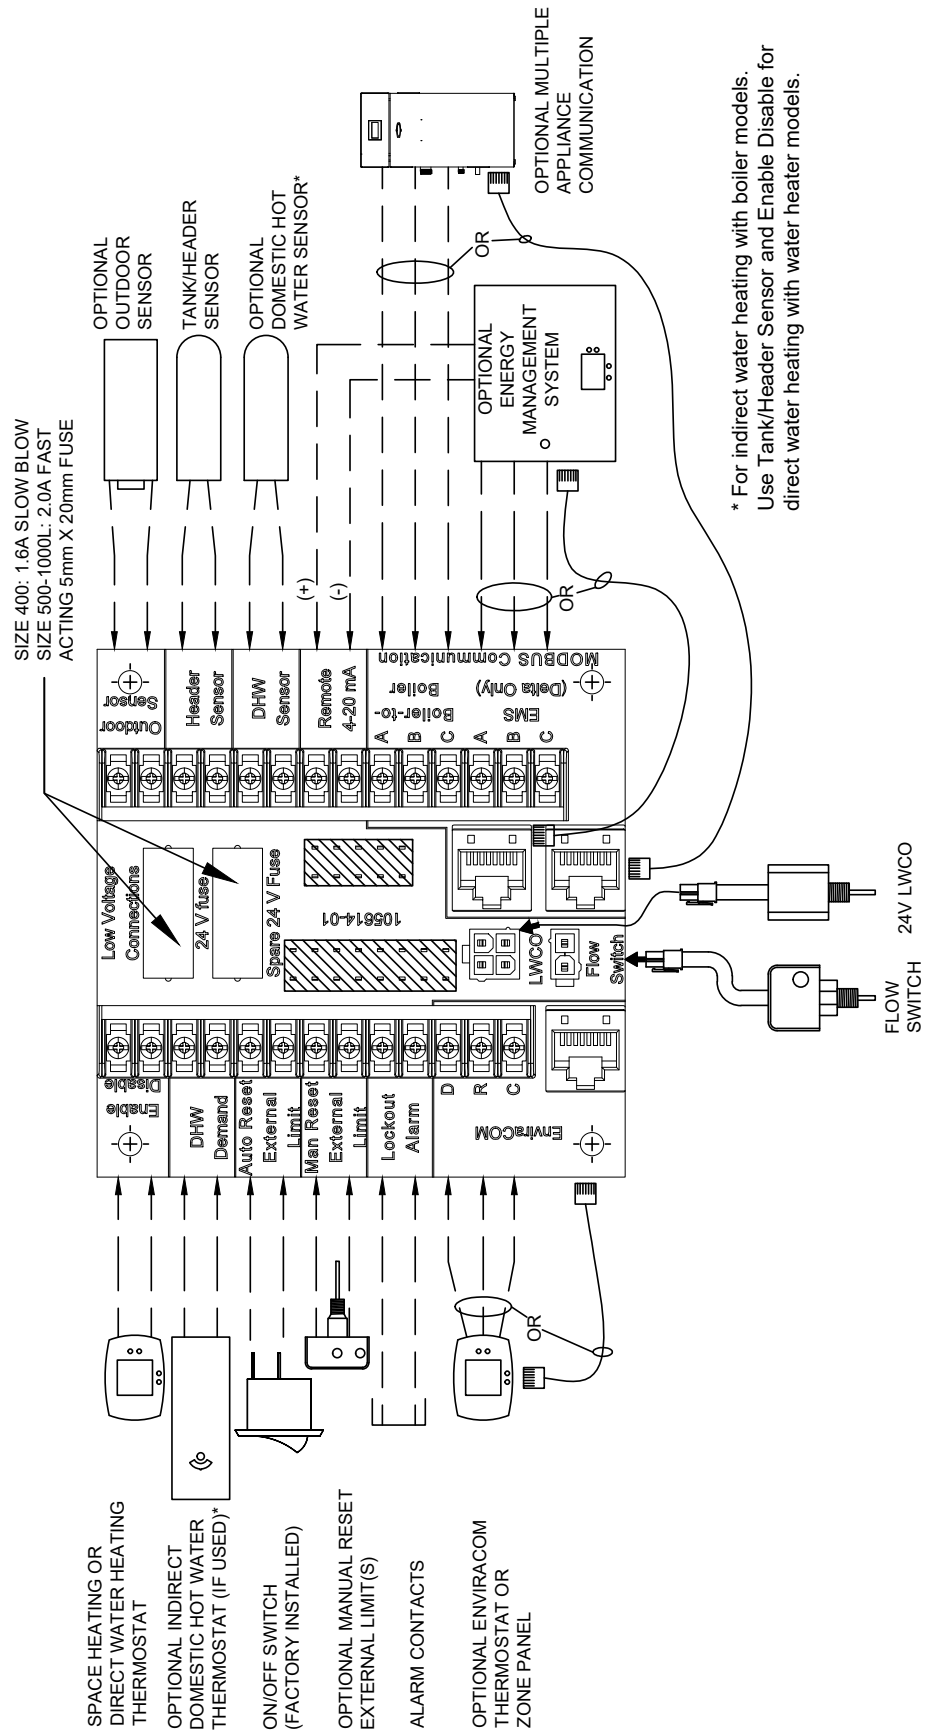

Figure 23: Low Voltage Connections PCB
- a. Low voltage PCB has connections for the tank sensor, external limits, Alarm, 4-20 mA, etc. One 24V fuse and spare are provided. See Figure 23.